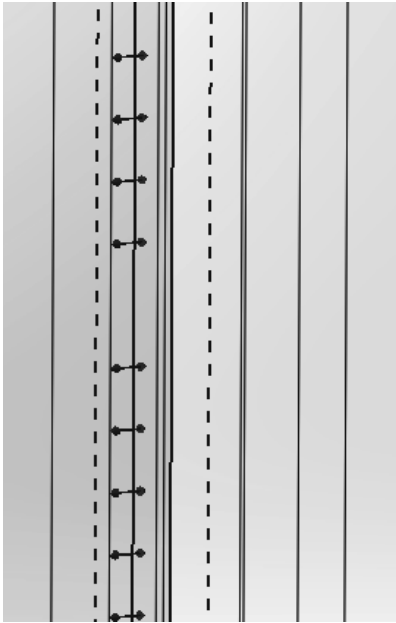

Figure 2.18b) Outlet static pressure boundary condition
18. Red arrows pointing in the flow direction indicate the inlet velocity boundary condition, see figure 2.17d). Right click in the graphics window and select **Zoom to Fit**. Right click again in the graphics window and select **Rotate View** once again to rotate the part so that the inner right outlet surface is visible in the graphics window. Right click and click on  **Select**. Right click on  **Boundary Conditions** in the **Flow Simulation analysis tree** and select **Insert Boundary Condition...** Right click on the outflow boundary surface and select **Select Other**. Select the Face corresponding to the outflow boundary. Click on the **Pressure Openings** button in the **Type** portion of the **Boundary Condition** window and select **Static Pressure**. Click OK to exit the window. If you zoom in on the outlet boundary, you will see blue arrows indicating the static pressure boundary condition, see figure 2.18b).